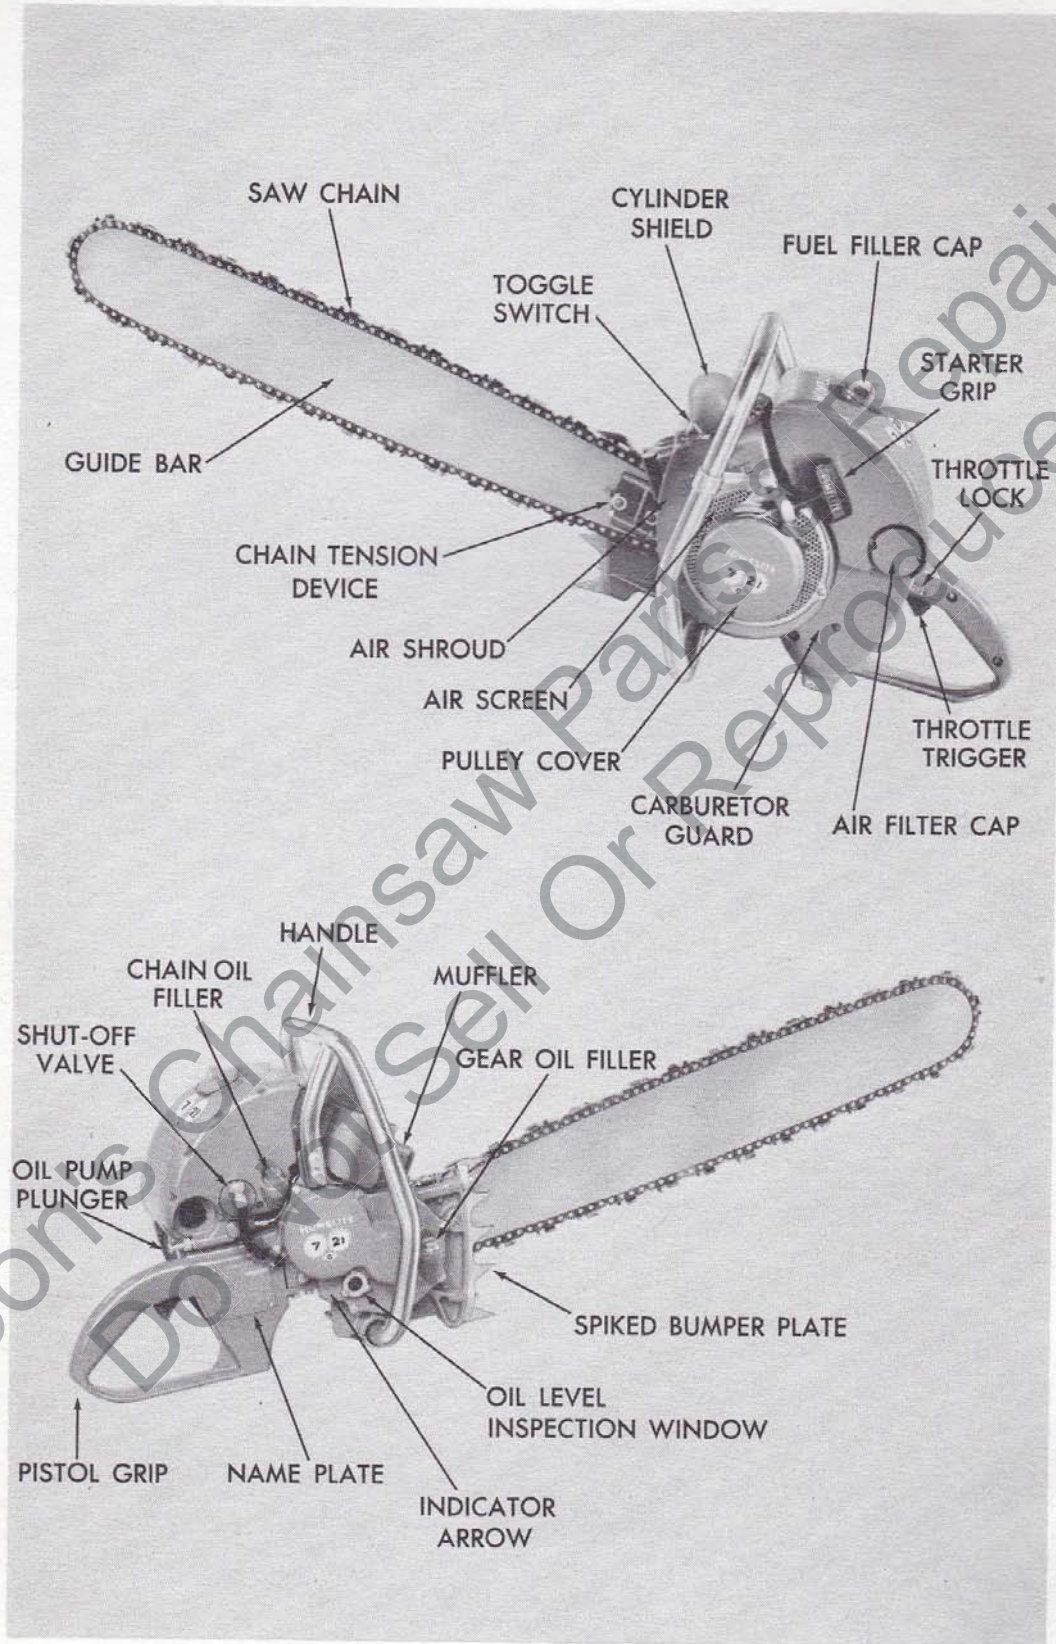

Figure 1—Homelite Model 7-21C Chain Saw
(1) The engine carton contains a can of gear oil for filling the gear case, and a combination assembly tool. The chain and guide bar have been packaged separately.
(2) When you mail in your warranty card, HOMELITE registers the serial number of the saw in your name and the warranty goes into effect. The serial number is stamped on the name plate (See Figure 1, *bottom.*)
2. STARTING AND STOPPING**a. Starting (See Figure 1)**
- (1) Push toggle switch to "ON" position.
- (2) Open the fuel shut-off valve all the way (counterclockwise).
- (3) Flip choke lever on left side of carburetor to the down (choke) position.
- (4) Depress the throttle trigger. (See Figure 1.) Lock throttle open by pulling back throttle lock on the left side of the pistol grip. Operate oil pump plunger and see that the chain is lubricated.
- (5) Be sure the chain is clear of all obstructions before pulling the starter, because the chain will rotate with the throttle locked open. The chain will not rotate when the throttle is released.
- (6) Pull the starter cord SLOWLY, a short distance, until you feel the drive balls engage. Then let the cord rewind on the pulley, but keep a slight tension while rewinding so the drive balls will remain engaged—NOW PULL CORD rapidly to crank the engine.